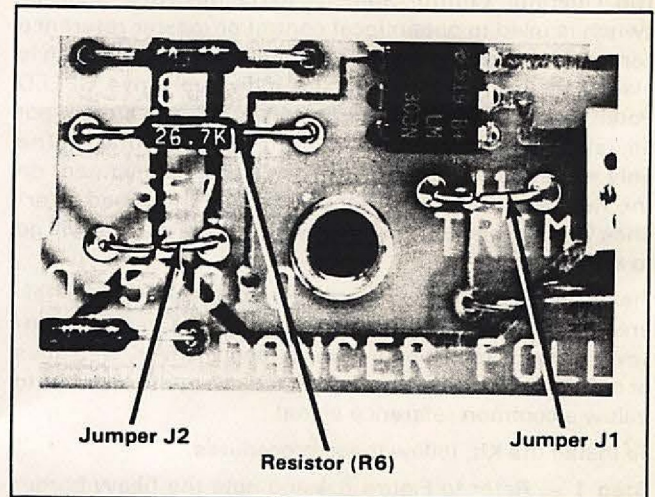

Figure 5.23 — Jumpers J1, J2 and Resistor (R6)
**Step 5** — If an optional Dancer Position Potentiometer is used (supplied by user), connect the "up" side of the potentiometer to terminal 726 of the Dancer Follower Module and the "down" side to terminal 557. Connect the potentiometer wiper to terminal 926. Also cut and remove jumper J2 and the 26.7K resistor (R6) on the Dancer Follower Module. (Refer to Figure 5.23.)
**Step 6** — If an AUTO/MANUAL selector switch is used on the Operator Control Station, remove jumper J1 of the Dancer Follower Module. (Refer to Figure 5.23.) If, however, the controller is to run automatically without manual speed control, leave J1 in place.